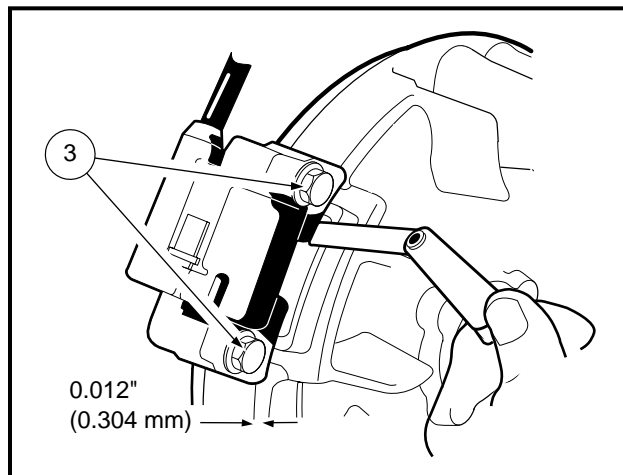

Figure 13-64 Adjust Ignition Coil Air Gap
2. While tightening the two bolts (3), use a bronze feeler gauge to adjust the ignition coil air gap to 0.012 inch (0.304 mm) (**Figure 13-64, Page 13-32**).